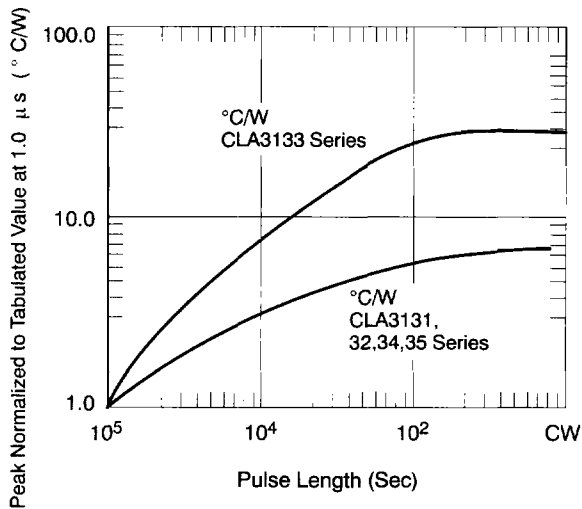

Figure 10. Pulsed Thermal Impedance
- Pulsed thermal impedance is given for a 1 μs pulse. Figure 10 shows typical variation for longer pulse lengths. CW thermal impedance presumes infinite heat sink.